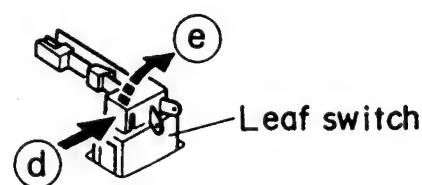

Fig. 5-20
(See Fig. 5-20)
Press the leaf switch in the direction of the arrow ④ and then remove it in the direction of the arrow ⑤ referring to Fig. 5-20.